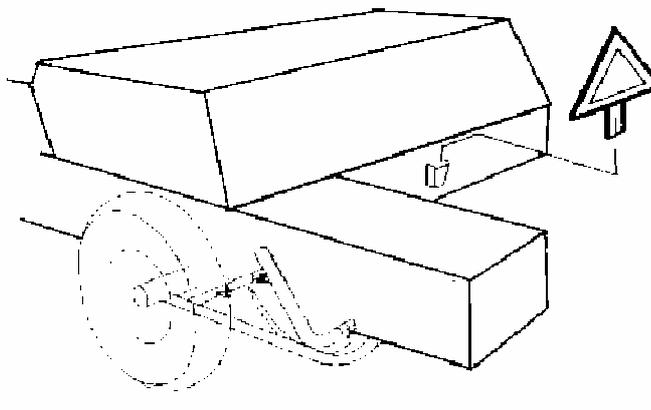

Fig. 1 Location for installing a triangular warning plate
1. The manufacturer delivers complete balers with a user manual and warranty card and spare parts listed in the user manual. Upon receipt of the machine, check all the received documents and make sure that the number of the baler on the manufacturer's plate and on the frame of the baler corresponds to the number in the documents (see Fig.1).
3. The balers are equipped with an electrical system and reflectors. Before entering any public road, the proper functioning of the electrical installation must be checked and the triangular warning sign must be placed on the hook installed at the back cover of the baler (see Fig. 1).
6. For the time of transportation, a triangle warning plate should be installed on the baler. Fig.1